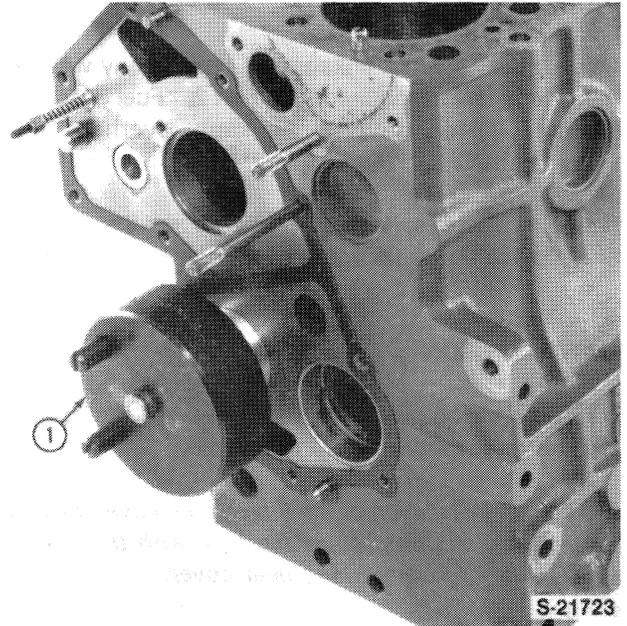

Figure 47
3. Insert the port block assembly into the installer tool and place on the guide pins as shown, Figure 47.